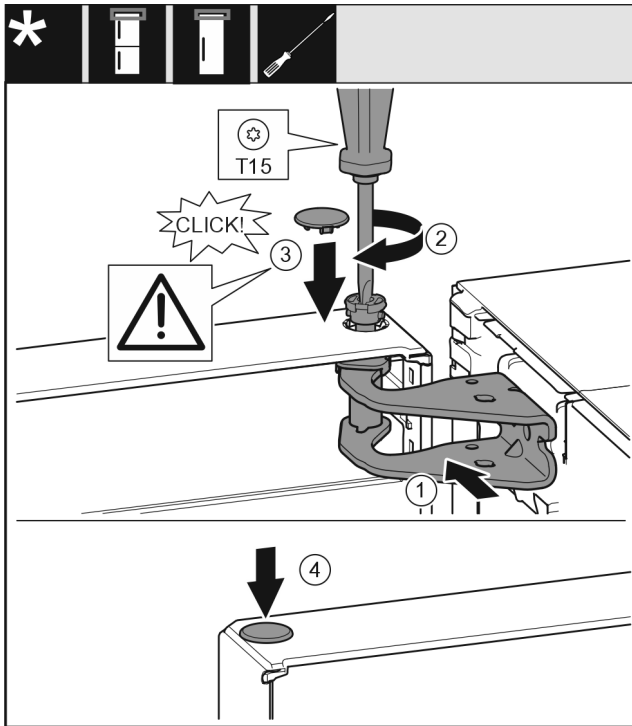

Fig. 20
- Align the top of the door with opening in the bearing bracket. Fig. 20 (1)
- Insert the bolt and tighten with a T15 screwdriver. Fig. 20 (2)
- Fit the protective cover to protect the door: Insert the protective cover and check that it lies flush on the door. If not, insert the bolt fully. Fig. 20 (3)
- Insert the plugs. Fig. 20 (4)